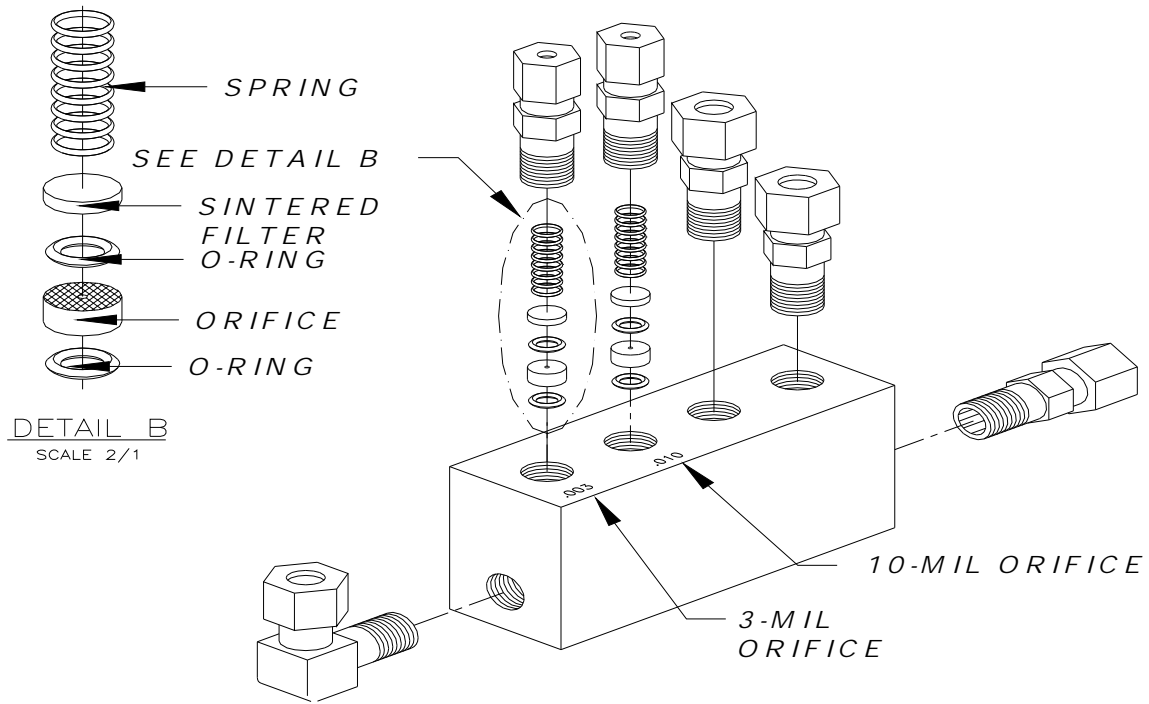

FIGURE 3.
12. Connect the 3-mil orifice to the OVEN OUT port on the permeation tube oven. Shown in FIGURE 3.
13. Connect the tubing from the ZERO AIR inlet port to the OVEN IN port on the permeation tube oven. Shown in FIGURE 3.